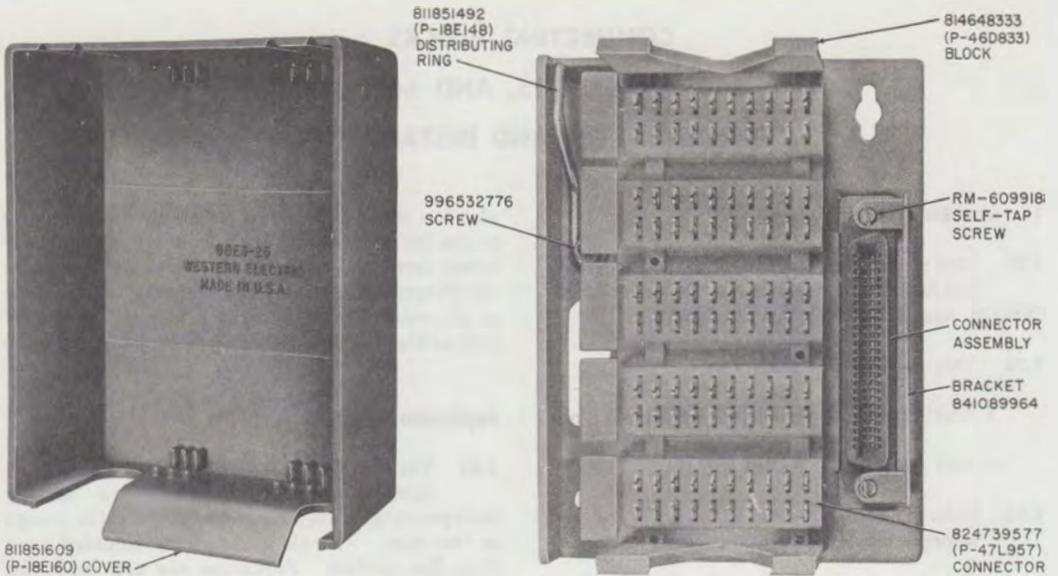

Fig. 1--66E3-25 Connecting Block
2.03 The 66E3-25 connecting block (Fig. 1) is equipped with a molded plastic housing incorporating a snap-on cover and a cable trough in the base. The block should be mounted on a firm flat surface. Provisions are also made for mounting the block to a standard wall outlet box or overfloor duct by using a 152A adapter.
2.06 A new bracket design has been incorporated on the 66E3-25 and 66E4-25 connecting blocks for attaching both the low and high silhouette plug or connectors. The new bracket 841089964 (Fig. 1), which contains a diagonal slot, replaces the present P-21E608 bracket. The new slot provides improved retention of the connector and plug to eliminate accidental disengagement resulting from external movement of the cord or connector cable.
3.05 On 66E3-25 and 66E4-25 connecting blocks, field replacement of the old retainer bracket (P-21E608) with the new retainer bracket (841089964) can be accomplished by removing two easily accessible RM-609918 button-head self-tapping screws (Fig. 1), removing the old bracket, installing the new bracket, and replacing the two screws. Attach retainer to bracket with 824634729 (P-46L472) RD washerhead screw.